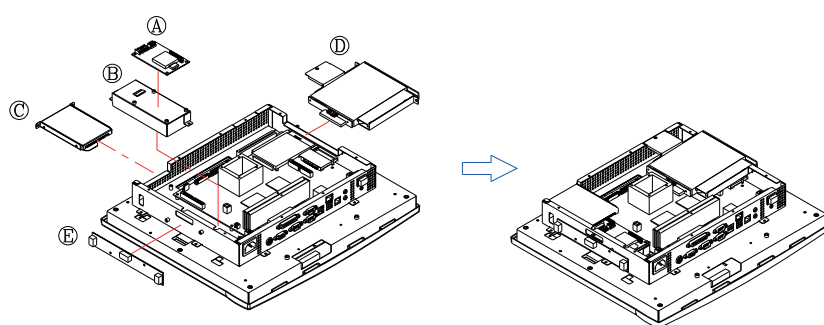
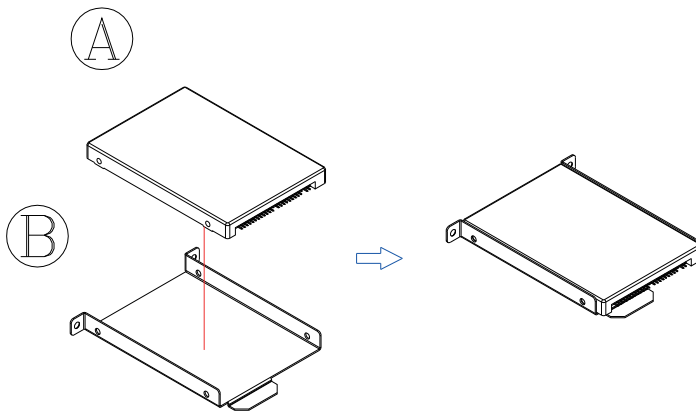
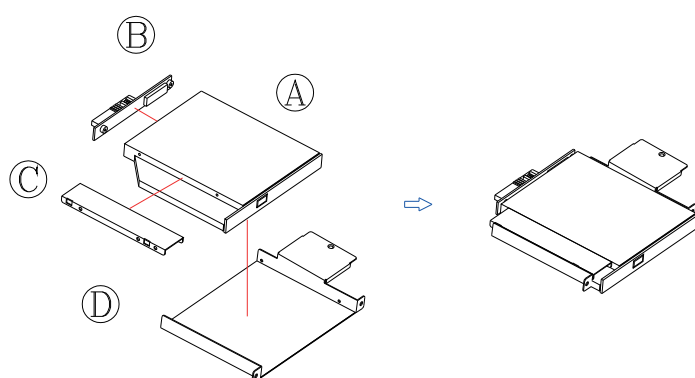

FIGURE 5-6: PERIPHERAL MODULE ASSEMBLY
FIGURE 5-8: HDD ASSEMBLY
FIGURE 5-9: SLIM CD-ROM ASSEMBLY
3. Fix the invertor module to left side of the chassis with two PMS M3*8 screws as shown on Figure 5-6 (E).
The power supply is to be integrated with a power bracket before it is installed to the panel PC system. Figure 5-6 shows the steps to assemble the ATX power module. For the specification of the power supply, please refer to APPENDIX.
3. Integrate the power module to the system chassis and retain them together with two PMS M3*6 screws as shown on Figure 5-6 (B).
1. Fix the touchscreen controller to the top of the power supply bracket with four PMS M3*6 screws as shown on Figure 5-6 (A).
1. Refer to Figure 5-8. Fix the hard disk drive (1) to the HDD bracket (3) with four FMS M 3*5 screw.
2. Connect the one end of the 44-pin IDE ribbon cable (2) to hard disk drive with the other end connected to the **IDE 1** on the motherboard.
3. Retain the HDD module to the chassis with two **FMS M3*4** screws as shown on Figure 5-6 (B).
1. Refer to Figure 5-9. Attach the CD-ROM board (B) to the slim CD-ROM (A) and fix them together with two screws.
2. There is a small metal bracket (C) used to firmly fix the CD-ROM device to the CD-ROM bracket. This small bracket is to prevent the device from moving when installed to the CD-ROM bracket.
4. Insert the CD-ROM module with the small bracket already on to the CD-ROM bracket (D) and fix them together with two screws as shown on Figure 5-6 (D).
5. Insert the CD-ROM module to the chassis and fix them together with three FMS M3*4 screws as shown on Figure 5-6 (D).